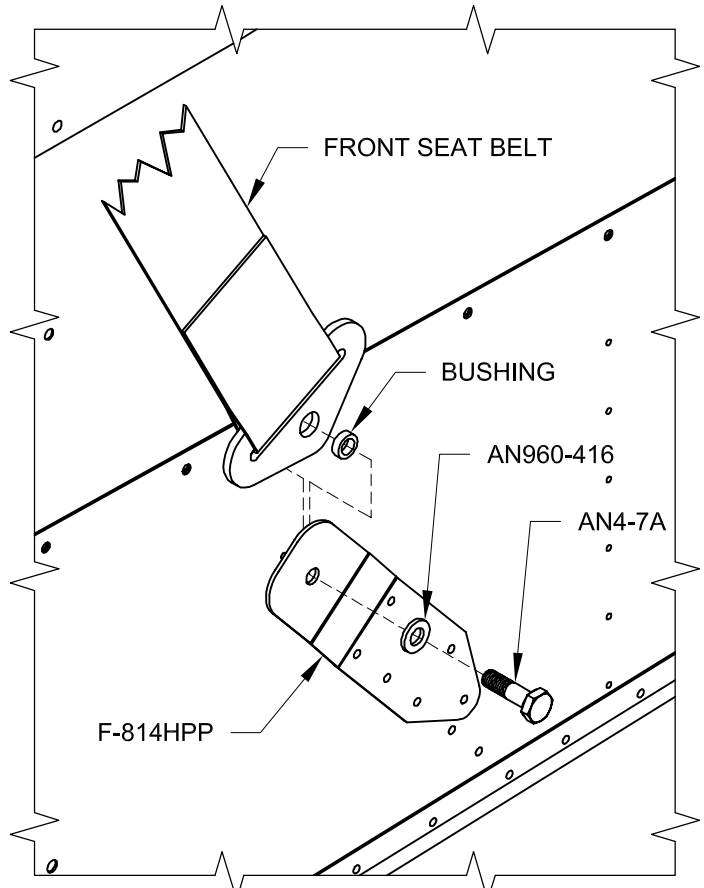

FIGURE 3: FRONT SEAT BELTS
Step 4: Attach the end fitting of the front seat belts to the F-814HPP Fwd Seat Belt Anchors using the hardware shown in Figure 3.